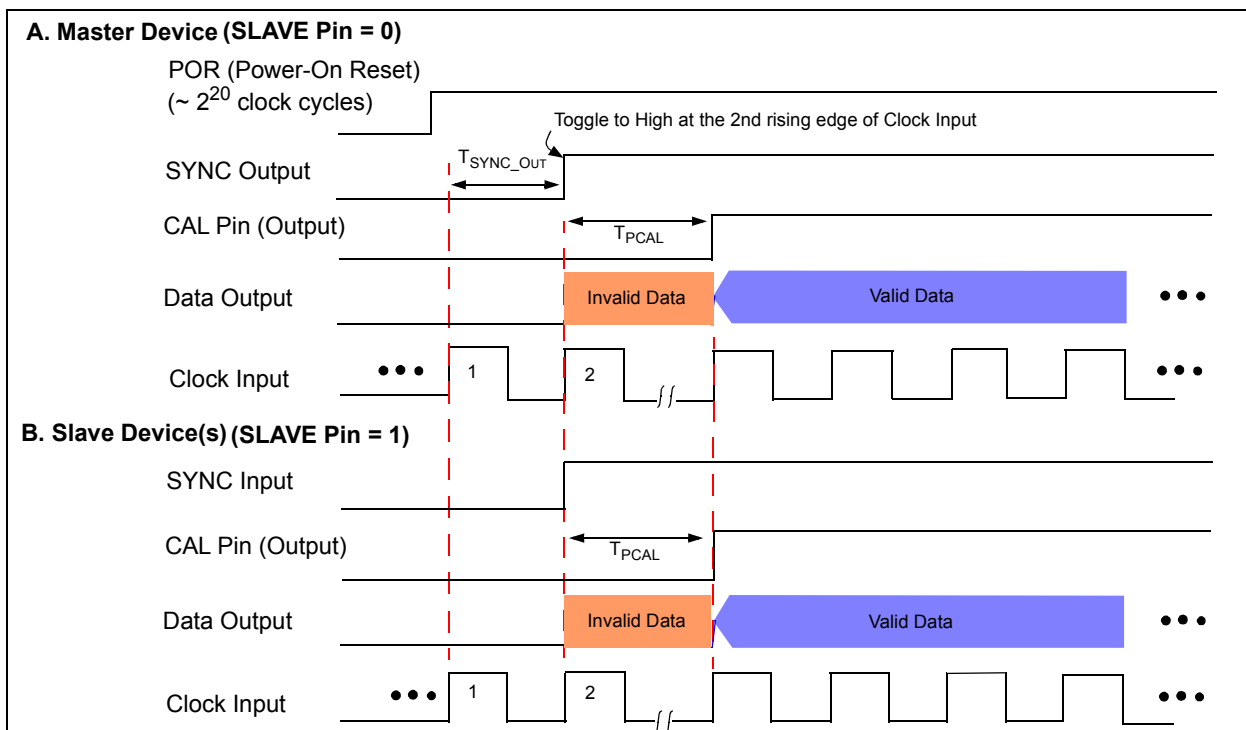
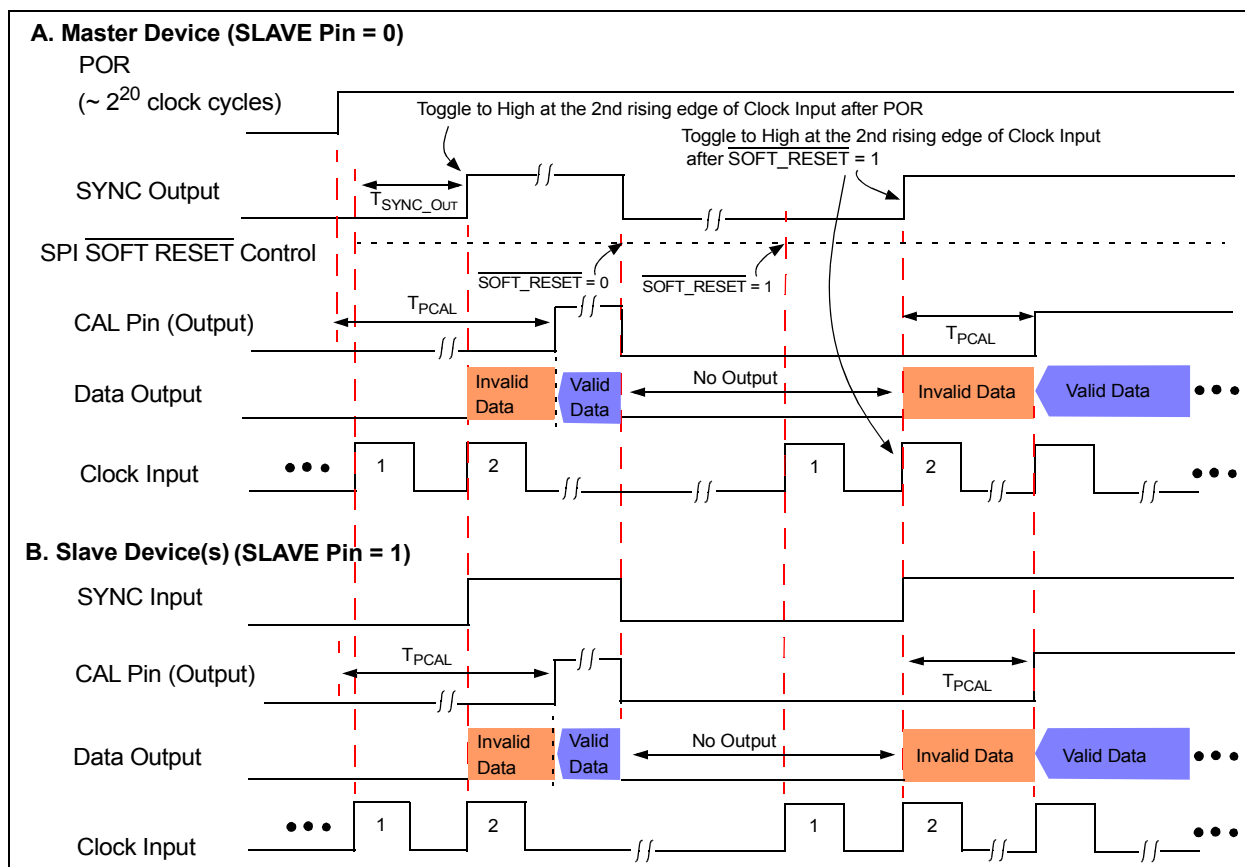

FIGURE 2-9: Sync Timing Diagram with Power-On Reset.
FIGURE 2-11: Sync Timing Diagram with $\overline{SOFT_RESET}$ Bit Setting.
- 6:** Characterized with a single slave device. The maximum ADC sample rate for AutoSync mode may be reduced if multiple slave devices are used. See Figure 2-9 - Figure 2-11, and Figure 4-27 for details.^(c)